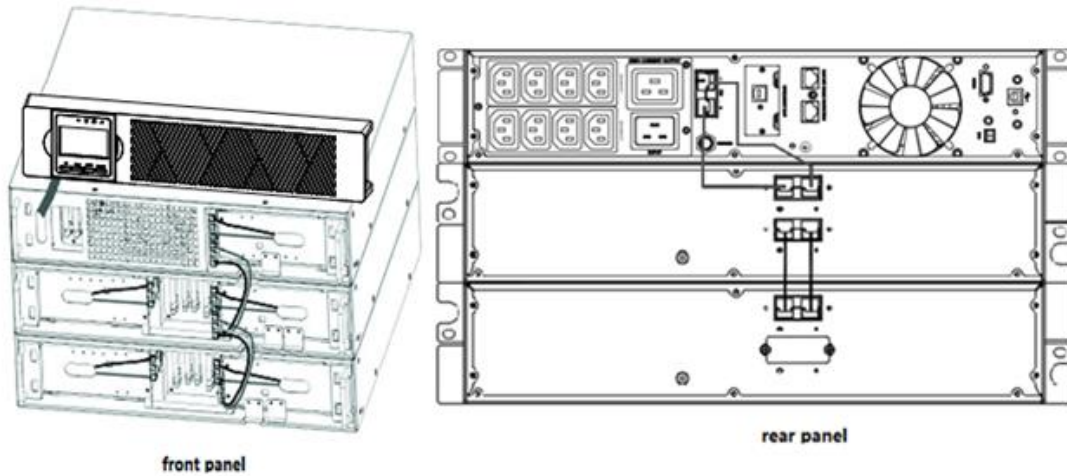

Figure 10: Typical EBP installation
- c) For the bottom (or only) EBP, remove the EBP cable knockout on the top of the EBP front cover. See Figure 10 for the location of the top EBP cable knockout.
- d) If you are installing more than one EBP, for each additional EBP remove the EBP cable knockout on the top and bottom of the EBP front cover. See Figure 10 for the location of the EBP cable knockouts.
- e) Plug the EBP cable(s) into the battery connector(s) as shown in Figure 10. Up to four EBPs may be connected to the UPS. Connect black to black. Press the connector tightly together to ensure a proper connection.